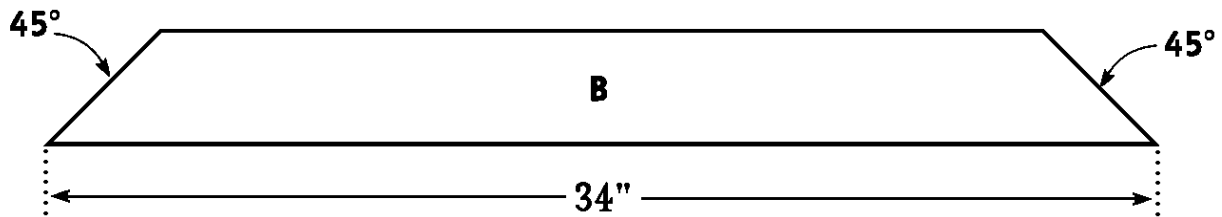

Figure 1
1. Cut one Top Ledge (A) from 1 x 6 pine measuring 36 inches.
2. Cut one Front Support (B) from 2 x 4 pine measuring 34 inches.
3. Miter both ends of the Front Support (B) at opposing 45-degree angles, as shown in *Figure 1*.